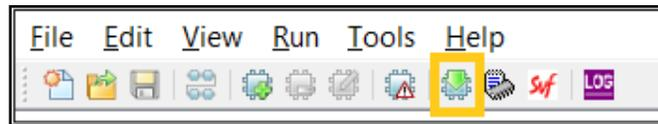

Figure 8.14. Program Device Toolbar Icon
- Click on the program device toolbar icon as shown in Figure 8.14.